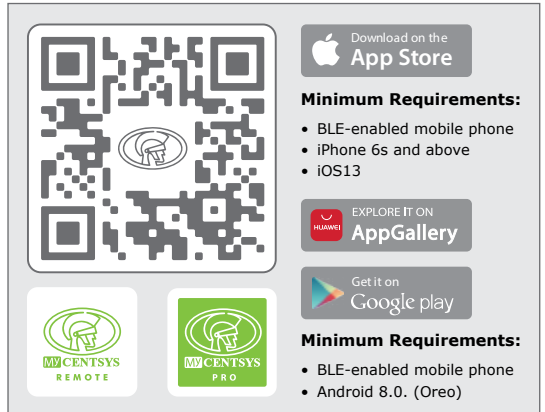

FIGURE 99
1. Scan the QR Code in Figure 99.